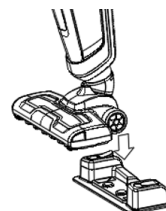

Fig. 8
4. Put the vacuum cleaner on the water tank (Fig. 8).
5. Use the toggle button (E) to wet the mop fabric as needed.